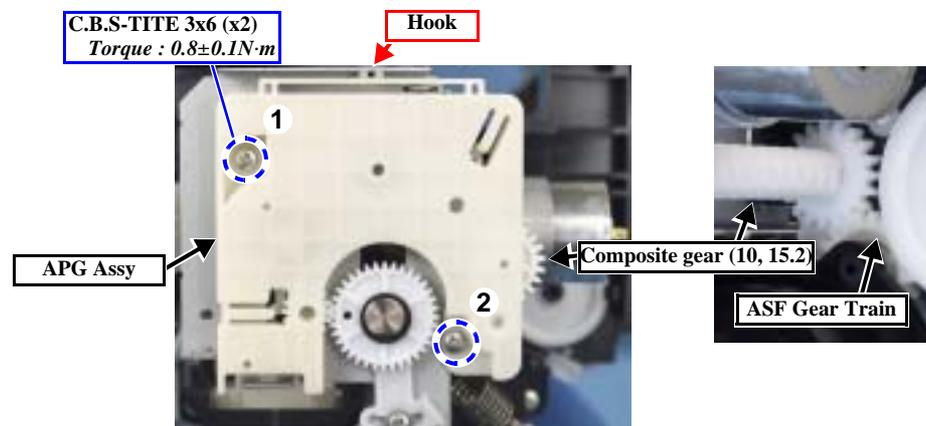

Figure 4-61. Removing the APG Assy
2. At the right side of the printer, remove the screws (x2) securing the APG Assy. (Fig. 4-61)